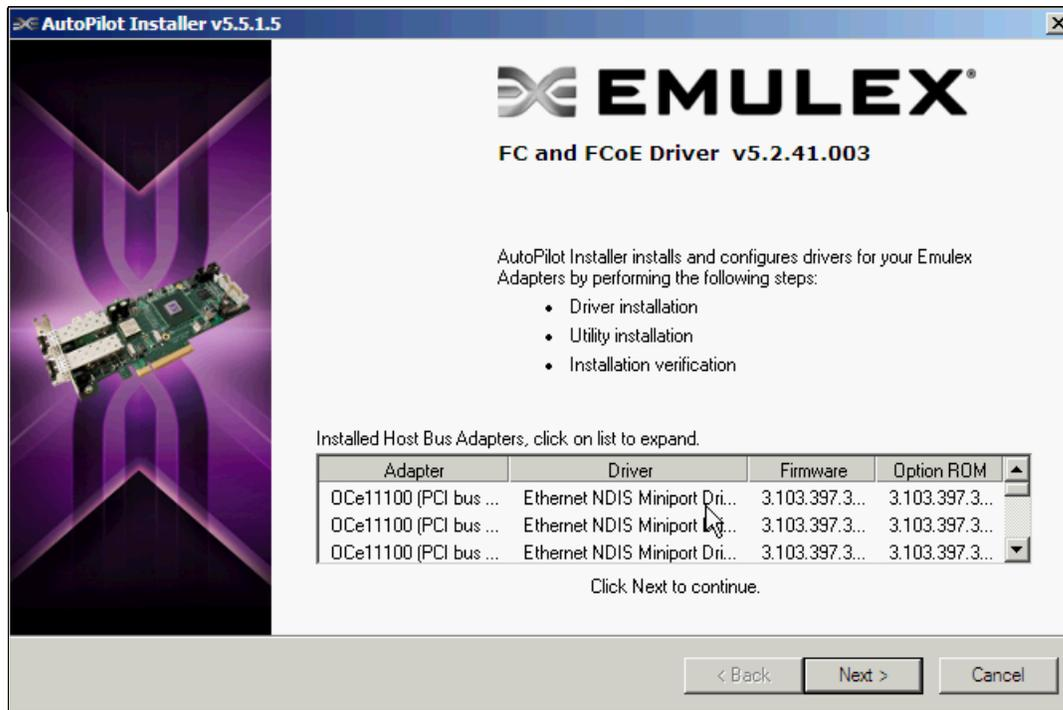

Figure 10-65 FC and FCoE Driver window
5. After the AutoPilot Installer starts, when you see the list of installed host bus adapters (Figure 10-65), click **Next**.